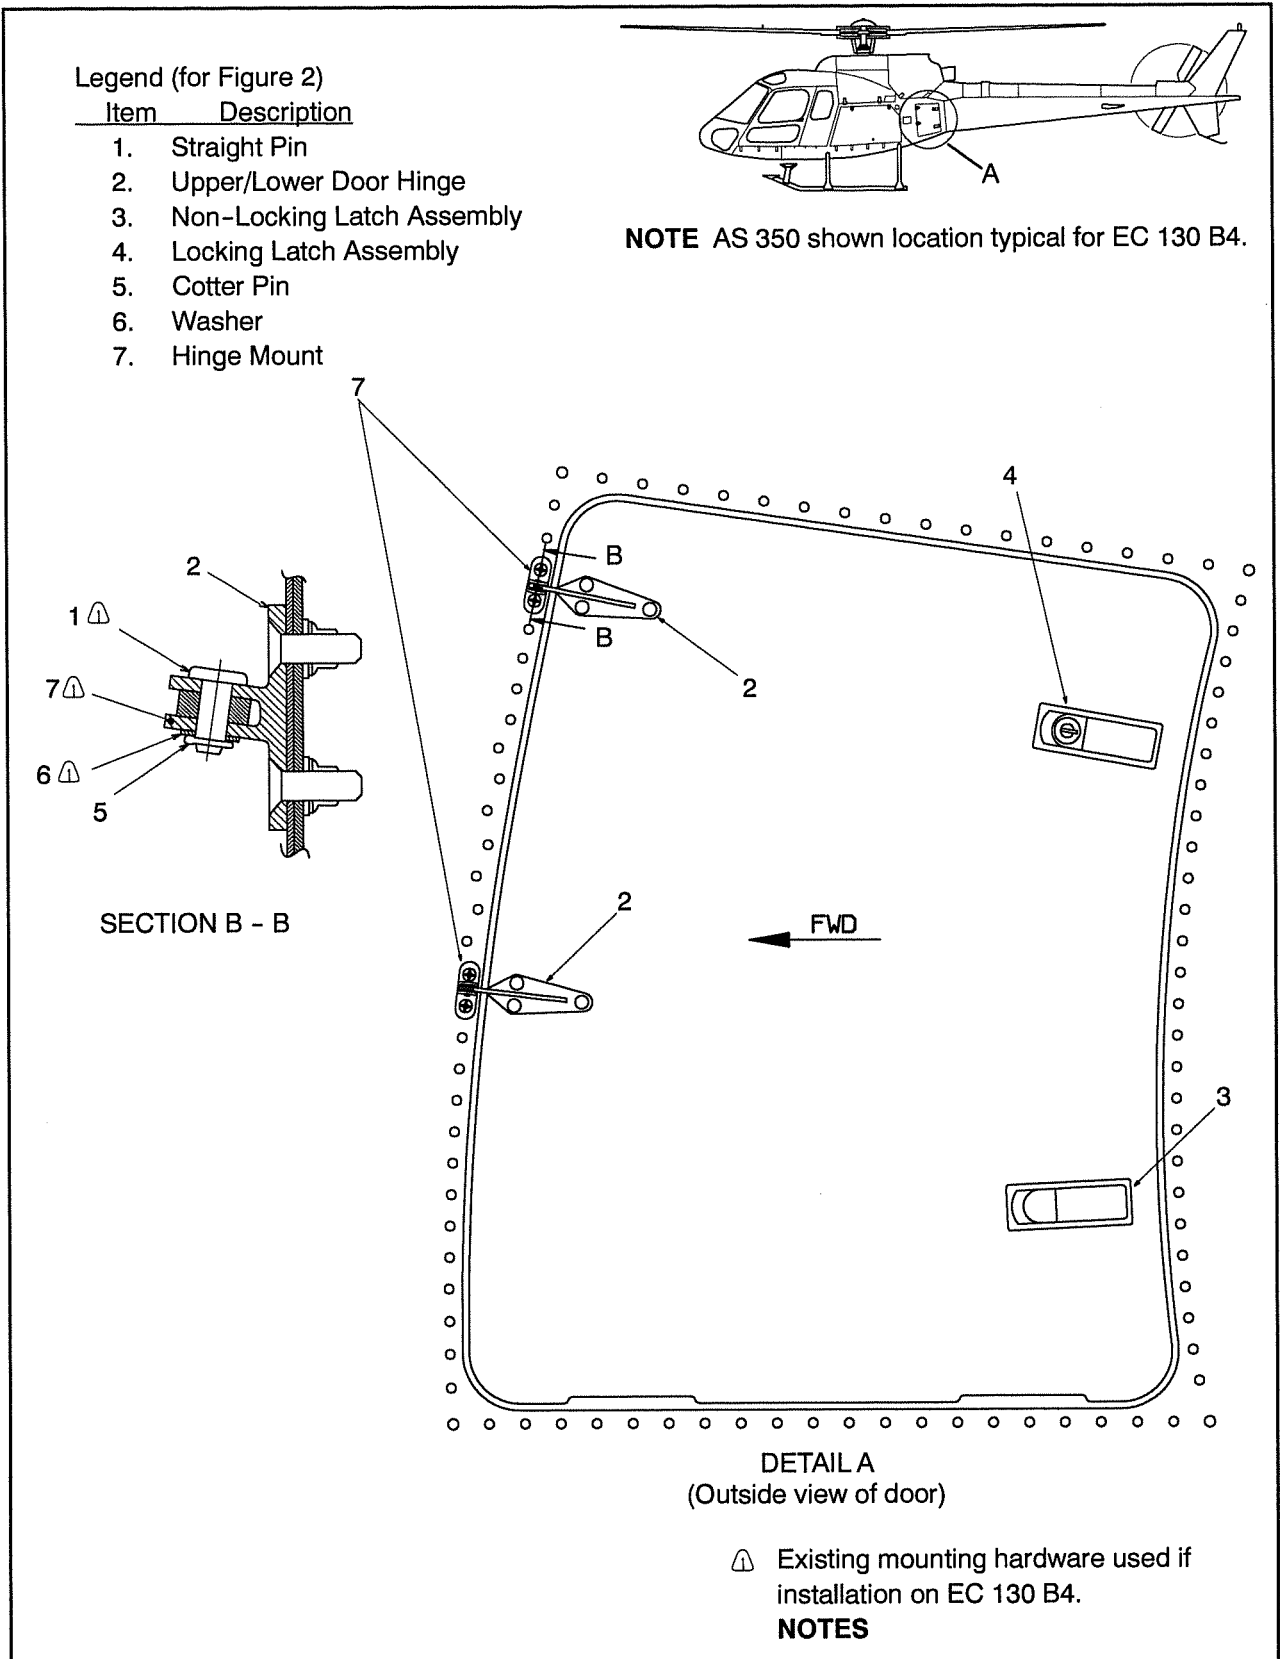

Figure 2 Door Installation (AS 350 / AS 355 and EC 130 B4)
1) Forward Opening Rear Cargo Door (Refer to Figures 2, 3 and 4)
- c) Remove cotter pins (5) (2 places) and washers (6) (2 places) and remove straight pins (1) (2 places) from hinge mounts (7) (2 places) while holding door. Refer to Figure 2, Section B-B.
2) Locking and Non-Locking Latch Assemblies (Refer to Figures 2 and 5)
- a) With door open, position door latch assemblies (3 and 4) in the latched position. Refer to Figure 2.
- a) Position Door on aircraft aligning upper and lower hinges (2) in hinge mounts (7) (2 places). Refer to Figure 2.
- b) Insert straight pins (1) (2 places) into hinge mounts (7) (2 places) and secure using washers (6) (2 places) and cotter pins (5) (2 places).
- a) Position both door latch assemblies (3 and 4) into door in the latched position. Refer to Figure 2.